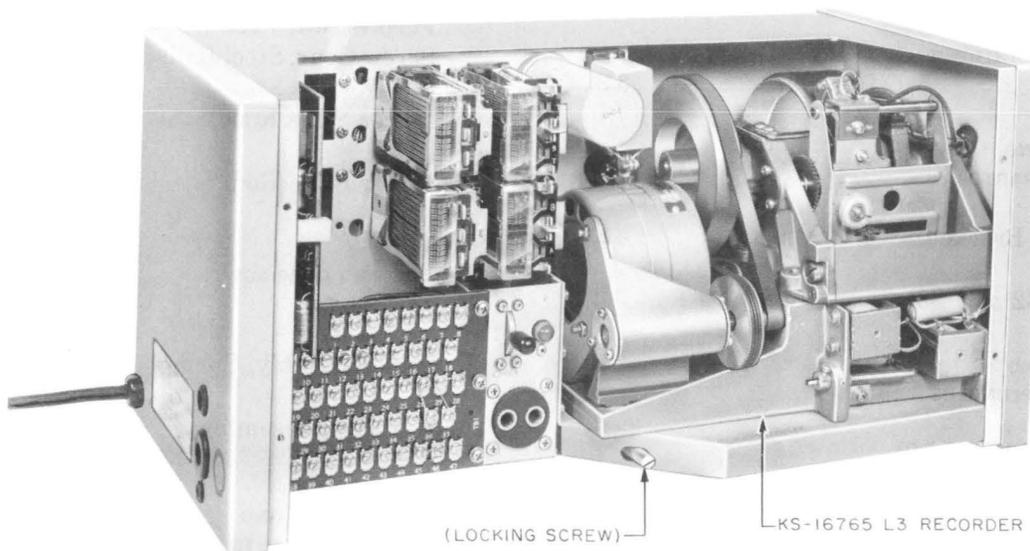
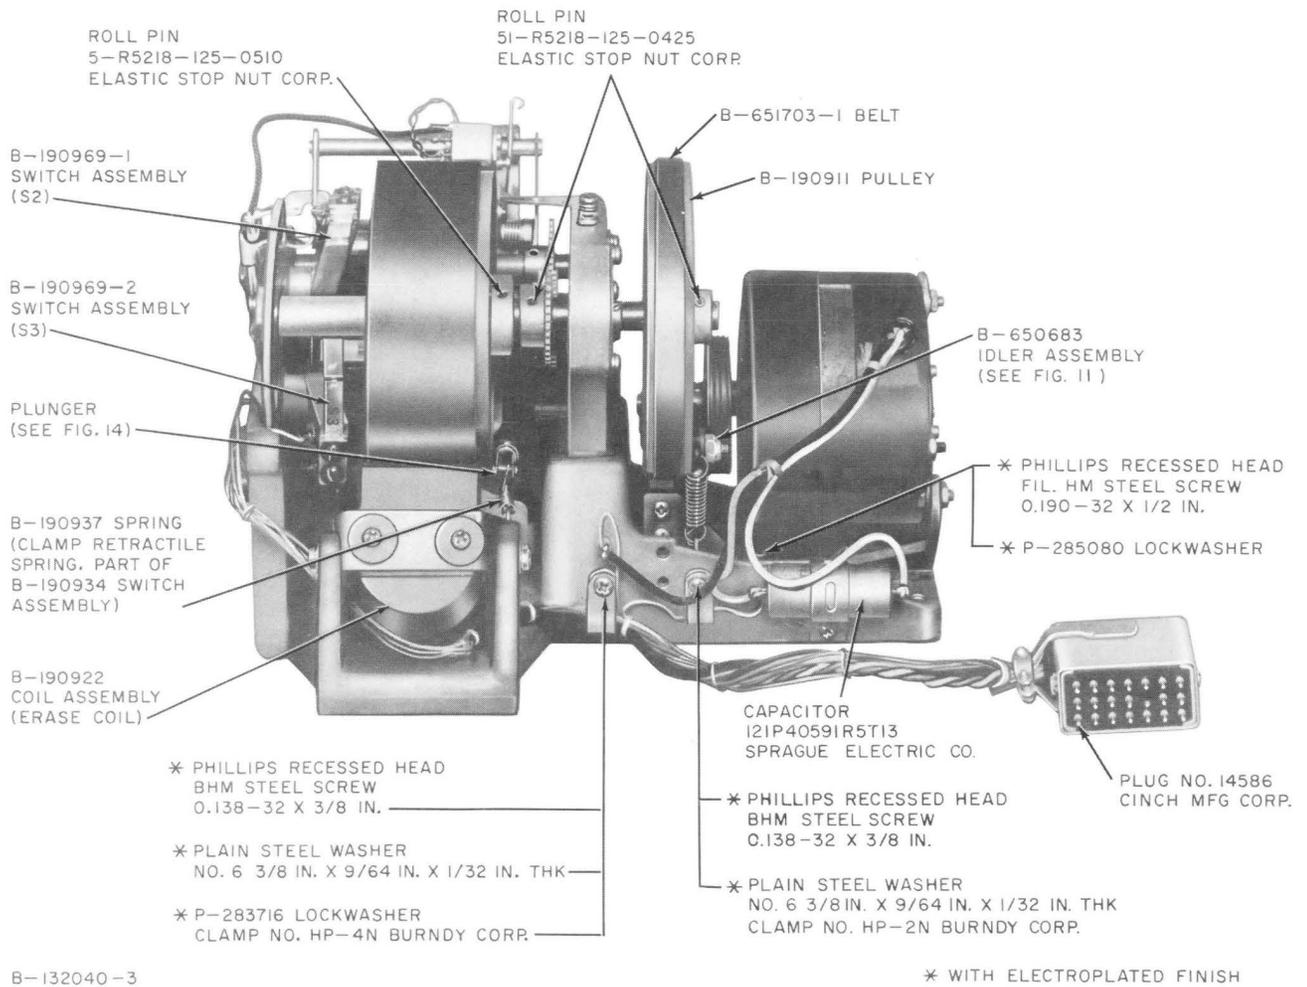

Fig. 1—KS-16765 L3 Recorder Mounted in Announcement Set—Front Cover Removed (Later Type Shown)
Fig. 4—KS-16765 L3 Recorder Equipped With B-650412 Drive Assembly—Rear View
- (3) If the set is provided with a KS-16765 L8 cord, disconnect it by removing the plug (Fig. 4 and 6) from its associated connector.
- (4) If the set is provided with a cord not equipped with a plug, tag each lead with its respective terminal board number and disconnect all leads from the TB1.
- (5) Using the 3-inch C screwdriver, fully disengage the locking screw (Fig. 1) located just below
- (2) Tag the terminals on the capacitor (Fig. 4) and unsolder the leads.
- (3) Unsolder the black ground lead from the motor.
- (4) Using the 6-inch B screwdriver, remove the four mounting screws which fasten the motor to the base.
- (1) Tag the terminals on the capacitor (Fig. 4) and unsolder the leads.
- (2) Unsolder the black ground lead from the motor.
- (3) Remove the flat drive belt (Fig. 4).